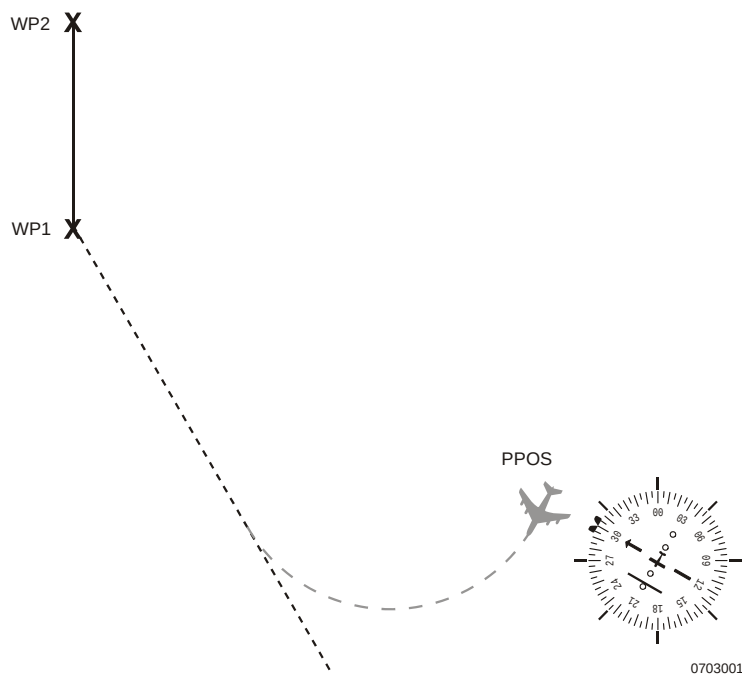

Figure 9-1 "Standard" Direct-To a Waypoint Procedure
Figure 9-1 illustrates the Direct-To a waypoint procedure.
- A. When configured for constant track (TRK), or constant heading (HDG), the CMA-9000 FMS enters the Track/Heading Hold mode when the following conditions are satisfied (refer to Figure 9-1):